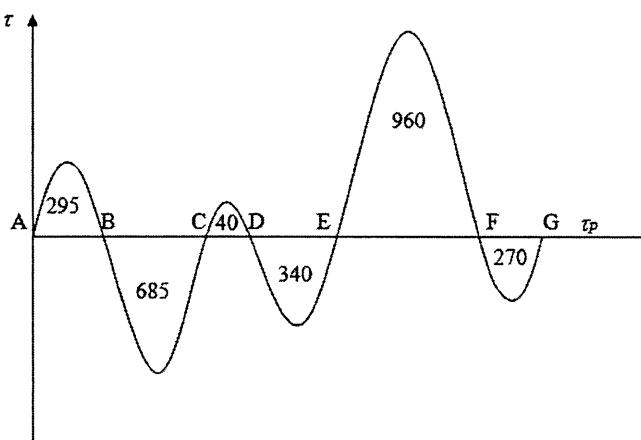

Figure 3
- a) The graph of torque against the crank angle for a petrol engine is drawn to the following scales: torque, 1 mm = 5 Nm; crank angle, 1 mm = 1° as shown in Figure 3 below. The areas above and below the mean torque, τ_p line, taken in order, are 295 mm^2 , 685 mm^2 , 40 mm^2 , 340 mm^2 , 960 mm^2 and 270 mm^2 . The rotating parts are equivalent to mass of 36 kg at a radius of gyration of 150 mm. **Compute** the coefficient of fluctuation of speed, when the engine runs at 1800 rev/min. (6 marks)